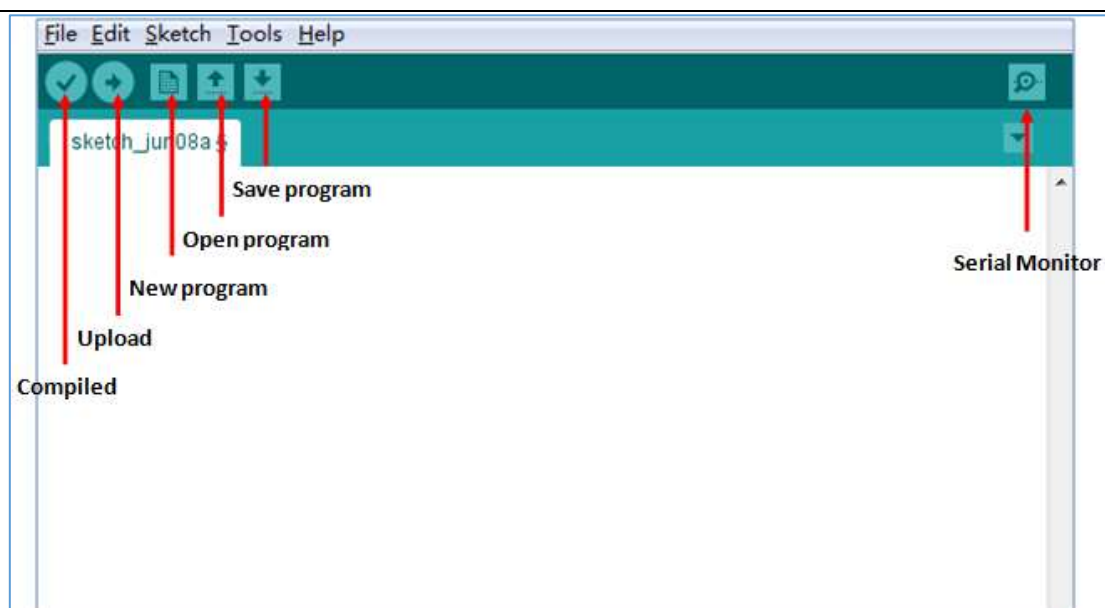

Figure 2.1.12 Arduino IDE Interface
1、 The first thing you can see is the interface of the following figure. The functions of the toolbar buttons are "Compile" - "Upload" - "New Program" - "Open Program" - "Save Program" - "Serial Monitor" , as shown in Figure 2.1.12.